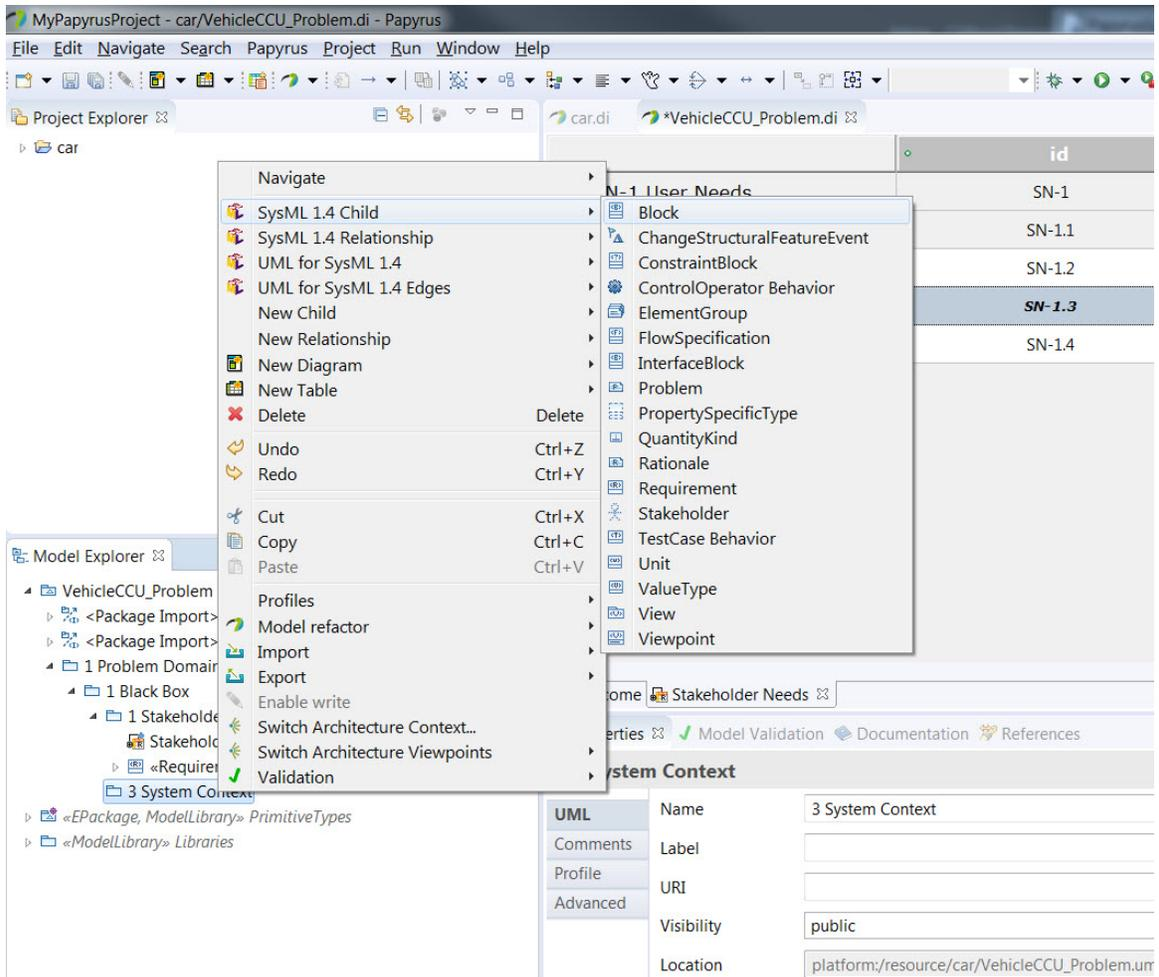
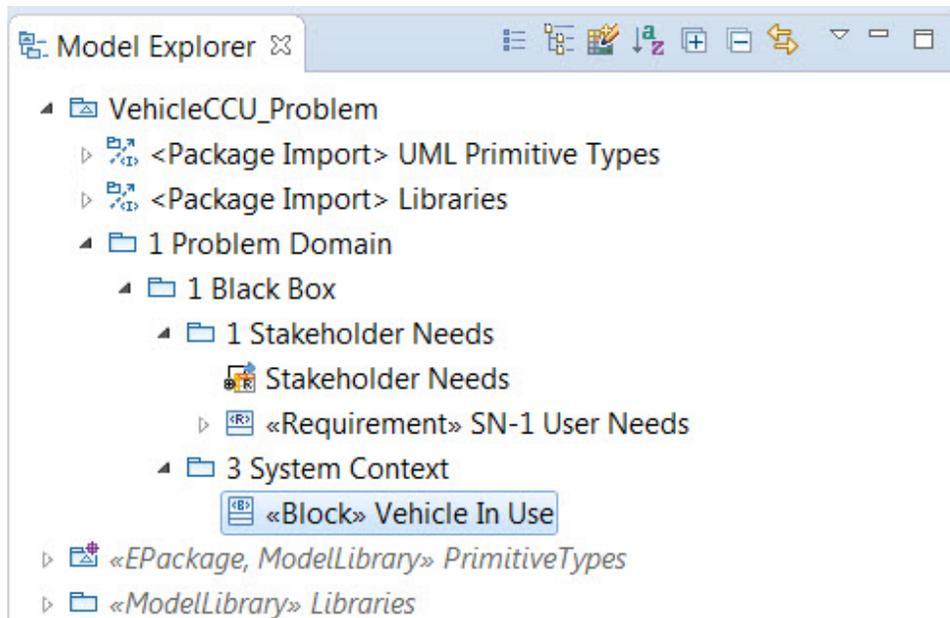

Figure 17: Create New Block
Figure 18: Vehicle In Use Block
2. Now we will create a block that captures the vehicle in use system context. Right-click on the *3 System Context* package just created and select **SysML 1.4 Child** and then **Block** (figure 17). Name the block *Vehicle In Use*. Your model explorer should now look like figure 18.